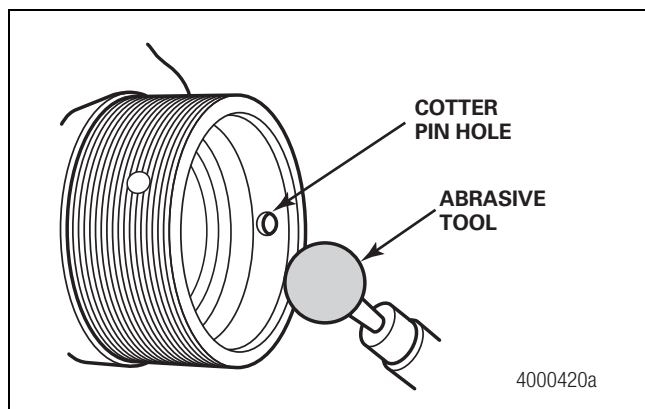

Figure 2.11
- **If the axle spindle is equipped with cotter pin holes:** Use a round abrasive tool to remove all metal burrs and sharp edges from the spindle bore side of the cotter pin holes. Figure 2.11.